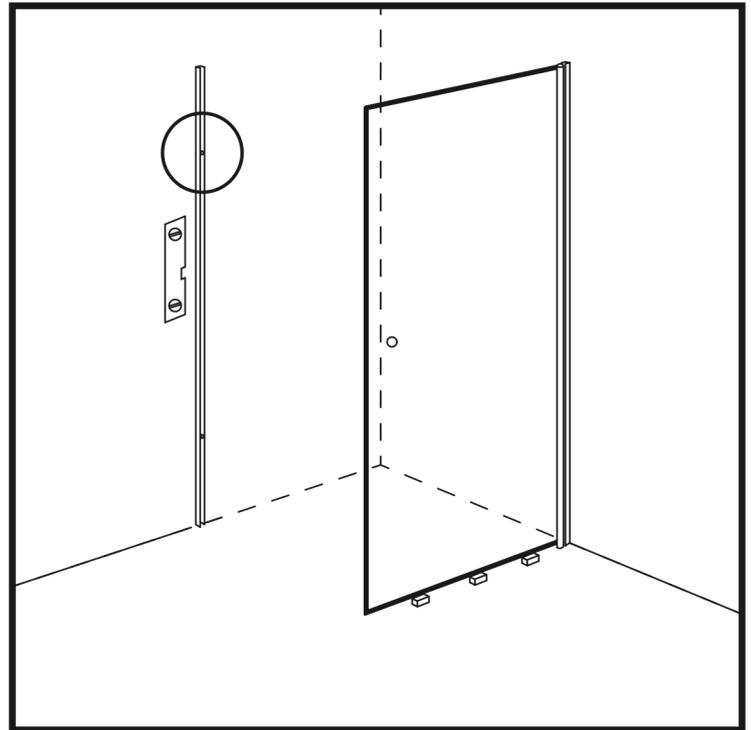

Figure 10
19. Place the longer U-profile vertically on the wall using a level so that the edge of the U-profile is flush with the marked dot and the end of the slat is against the floor. Mark the holes in the profiles (the locations of the dowel holes) on the wall and remove the profile. If marks remain on the edges of the ceramic tiles, try turning the profile the other way and making the marks again. (Figure 10)